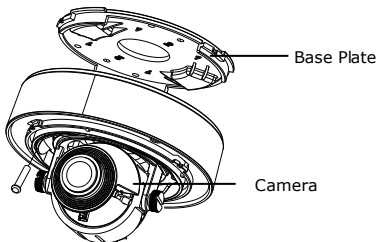

Figure 2-4 Securing the Camera
8. Tighten the lock screw to secure the camera with the base plate as shown in Figure 2-4.